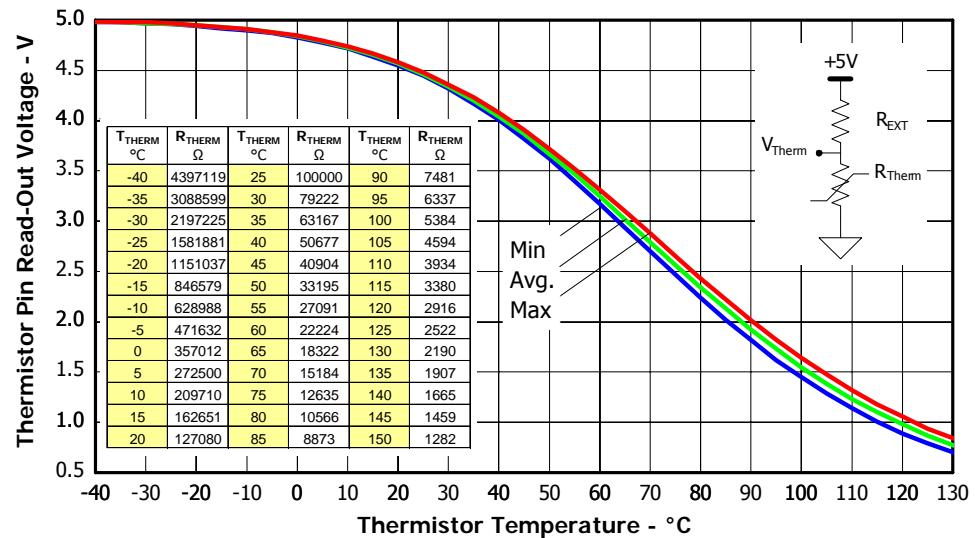

Figure 9. Thermistor Readout vs. Temperature (12kohm pull-up resistor, 5V) and Nominal Thermistor Resistance values vs. Temperature Table.
3. Value of the boot-strap capacitors depends upon the switching frequency. Their selection should be made based on IR design tip DN 98-2a, application note AN-1044 or Figure 9. Bootstrap capacitor value must be selected to limit the power dissipation of the internal resistor in series with the V_{CC}. (see maximum ratings Table on page 3).